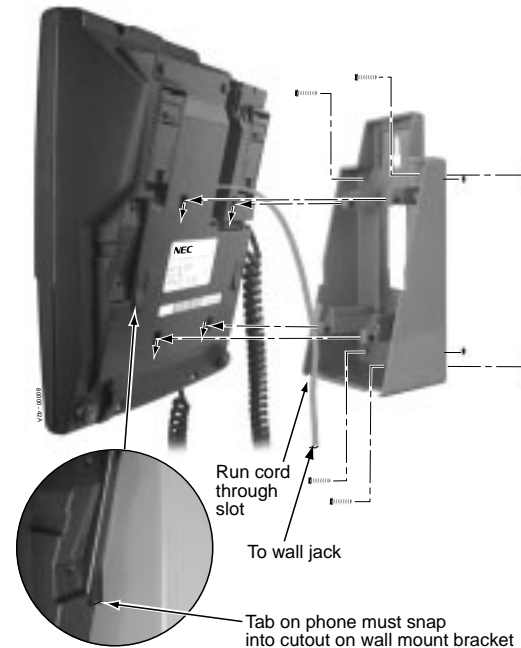

Figure 4-11 INSTALLING THE WALL MOUNT BRACKET
Wall-Mounting a Key Telephone (Figures 4-11 through 4-13)
- **To mount the telephone on the wall** (Figure 4-11):